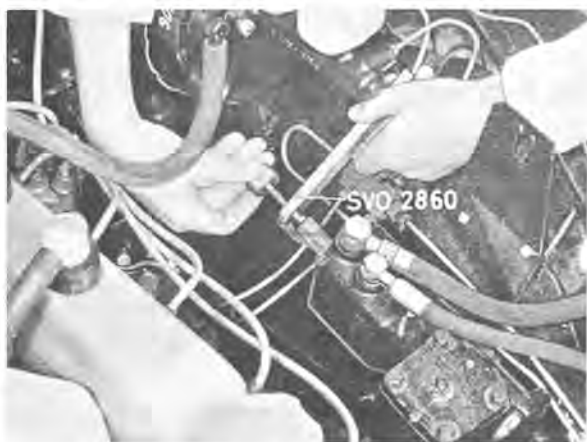

Fig. 6-55. Removing sealing ring
2. Mark up the location of the flange (7) on the control spindle. Slacken the clamping bolt (6) and pull off the flange.
4. Carefully apply tool SVO 2860 to the sealing ring. Tighten the screw (Fig. 6-55). This also tightens the sealing ring. If the ring sticks in the circlip groove, carefully turn the tool backwards and forwards.